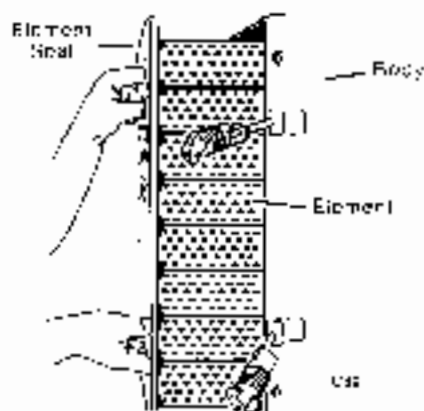

Figure 5 Removing Element
For the tube style, insert fingers in the element openings (see Figure 5). Loosen all four corners one at a time by pulling straight out. It may be necessary to break the seal along the edges of the element. After the seal has been broken, pull the element straight out and slightly up so it clears the sealing edge of the body.
7. Assemble the new element to the body. For the tube style, hold the element in the same manner as when it was removed (see Figure 5). Insert the element in the housing, avoid hitting the element tubes against the body.